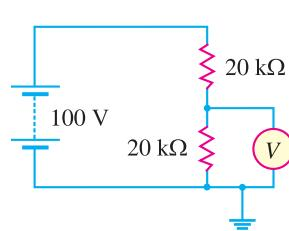

Fig. 22.28
1. A voltmeter is used to measure voltage across $20\text{ k}\Omega$ resistor as shown in Fig. 22.28. What will be the voltage value if (i) voltmeter has infinite resistance (ii) voltmeter has a sensitivity of $1000\text{ }\Omega$ per volt and reads 100 V full scale ?
3. If the sensitivity of voltmeter in Fig. 22.28 is $500\text{ }\Omega/\text{volt}$ (Full-scale reading being 100 V), what will be the reading of the voltmeter ?